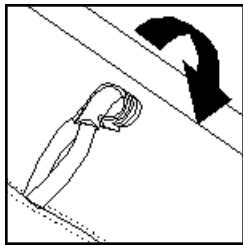

Figure 7A
10. Attach clips located at the seams of the tent to the corresponding poles above each (figures 7A and 7B). NOTE: Clips are color coded for each pole.